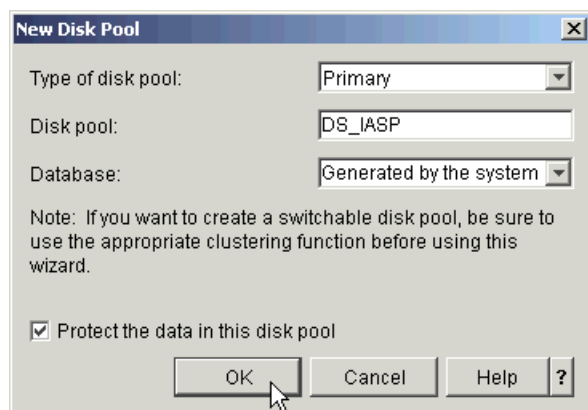

Figure 17-10 Defining a new disk pool
7. In the New Disk Pool window shown in Figure 17-10, select **Primary** from the drop-down menu for the Type of disk pool, give the new disk pool a name, and leave the Database entry as the default **Generated by the system**. Ensure the disk protection method matches the type of logical volume you are adding. If you leave it unchecked, you see all available disks. Select **OK** to continue.